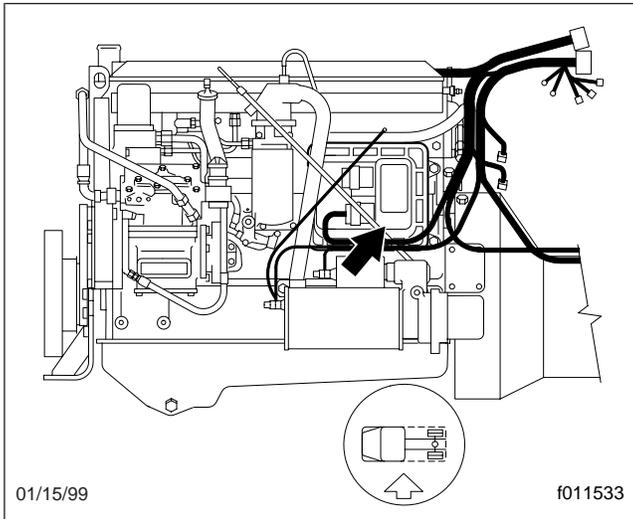

Fig. 3, Caterpillar 3126/CFE Engine ECU Location
- For Caterpillar 3126/CFE engines, see Fig. 3.